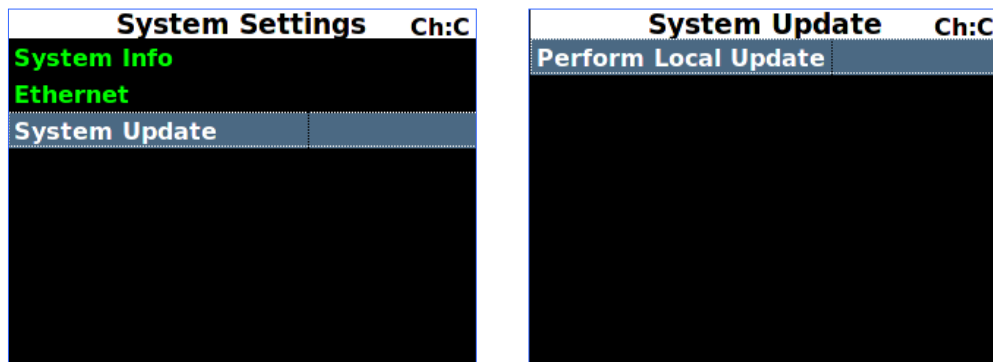

Figure 162: System Update, Perform Local Update Selection
3. Access the System Update screen, as shown in Figure 162. Press the Enter key.